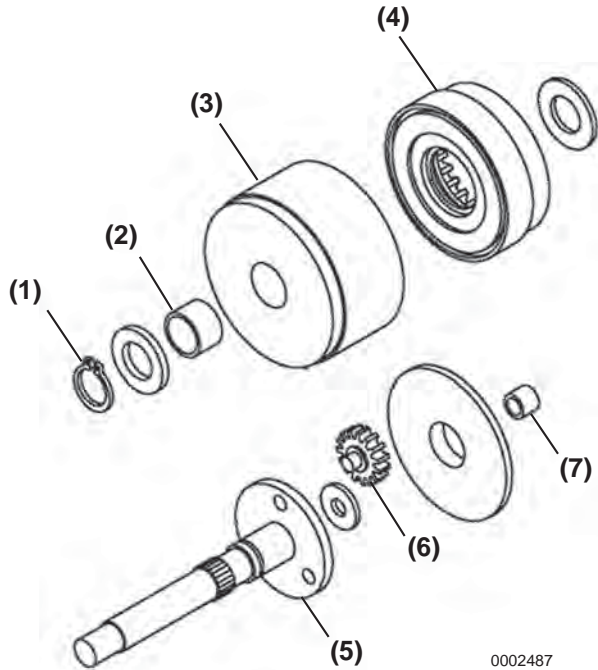

Figure 10-11
14. Remove the snap ring (**Figure 10-11, (1)**). Remove the pinion shaft (**Figure 10-11, (5)**), planetary gears (**Figure 10-11, (6)**), washers and reduction gear (**Figure 10-11, (4)**) from the intermediate housing (**Figure 10-11, (3)**).
15. Inspect the intermediate bushing (**Figure 10-11, (2)**) and replace if worn or damaged.
16. Inspect armature bushing (**Figure 10-11, (7)**) and replace if worn or damaged.